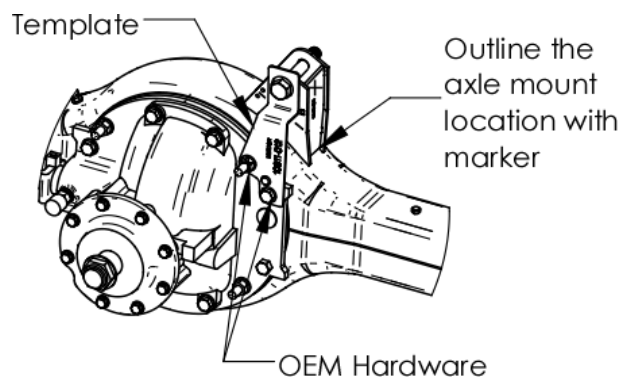

Figure 6. Position Axle Mount using Template
3. Temporarily attach the template to the axle using the two differential bolts. Using 5/8" hardware, fasten the Axle Mount to the template in the position shown in Figure 6.